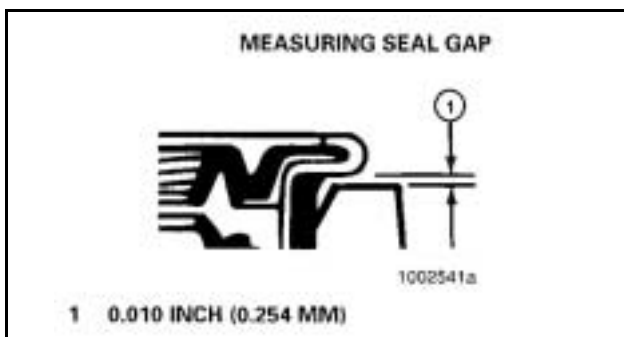

Figure 82
- **If the 0.010-inch shim slides between the seal flange and bearing cage:** Correctly position the seal driver and drive the seal into the bore until the 0.010-inch shim cannot slide between the seal flange and bearing cage at any point around the seal flange. **Figure 82.**